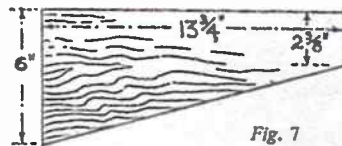

Fig. 7
The ends of the rails (E) are simply mortised and tenoned into the uprights, as shown by the dotted lines in Fig. 3. Fig. 7 gives measurements for marking